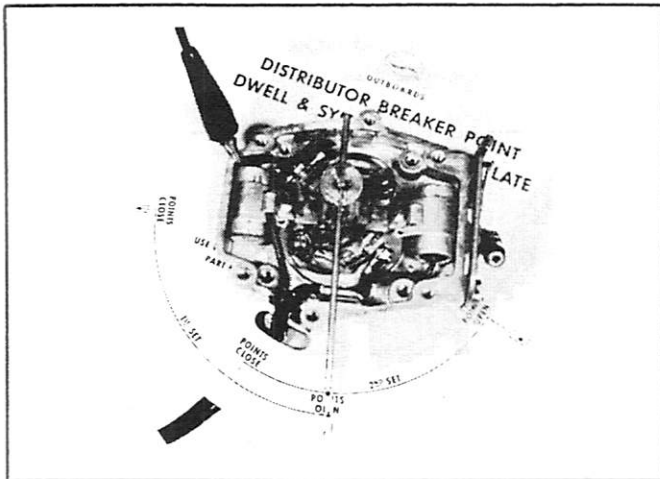

Figure 4. Dwell Plate C-91-30356A1
6. Rotate indicator arm counterclockwise until breaker points open, which will be indicated by the sudden movement in opposite direction of meter pointer hand. Indicator hand must be exactly on centerline marked "Points Open". (Figure 4 or 5)